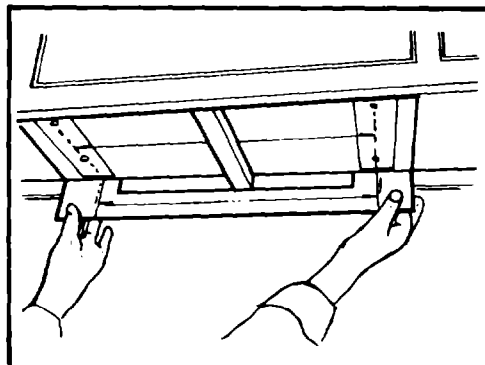

Fig. 14
- Adhere Template 2 in place with scotch tape. (**The cut line along the front edge of template must be placed against the back of the front rail, Fig.14**)